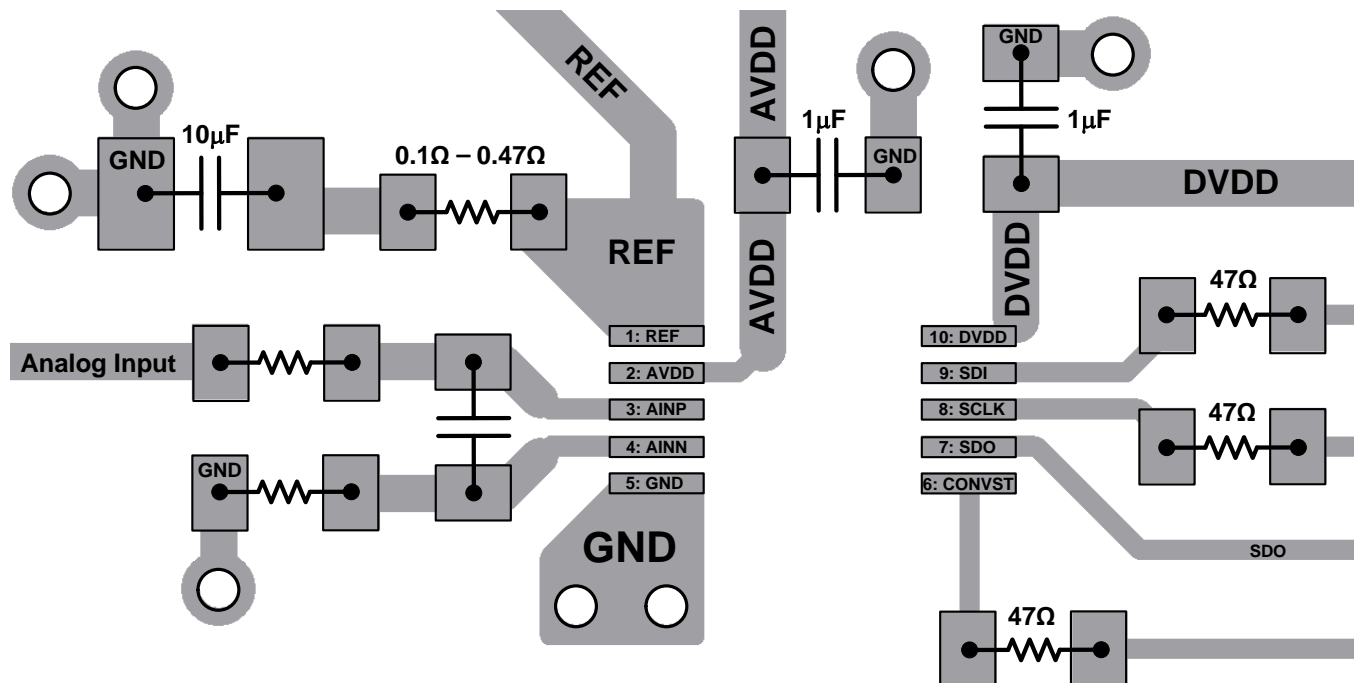

Figure 65. Board Layout Example
Figure 65 shows one of the board layouts as an example when using ADS8319 in a circuit.
- A layout that interconnects the converter and accompanying capacitors with the low inductance path is critical for achieving optimal performance. Using 15-mil vias to interconnect components to a solid analog ground plane at the subsequent inner layer minimizes stray inductance. Avoid placing vias between the supply pin and the decoupling capacitor. Any inductance between the supply capacitor and the supply pin of the converter must be kept to less than 5 nH by placing the capacitor within 0.2 inches from the supply or input pins of the ADS8319 and by using 20-mil traces, as shown in Figure 65.